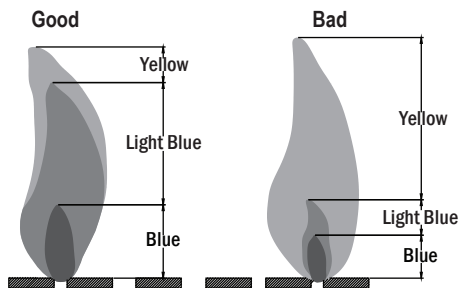

Figure 18
**Observe Flame Height When Lit:** The burner will display blue and yellow flames. These flames should be a blue / yellow color between 1~2 in. height, (see Figure 18). These flames should not be yellow or produce thick smoke. This would indicate an obstruction of airflow through the burners. The flames should be blue with straight yellow tops.